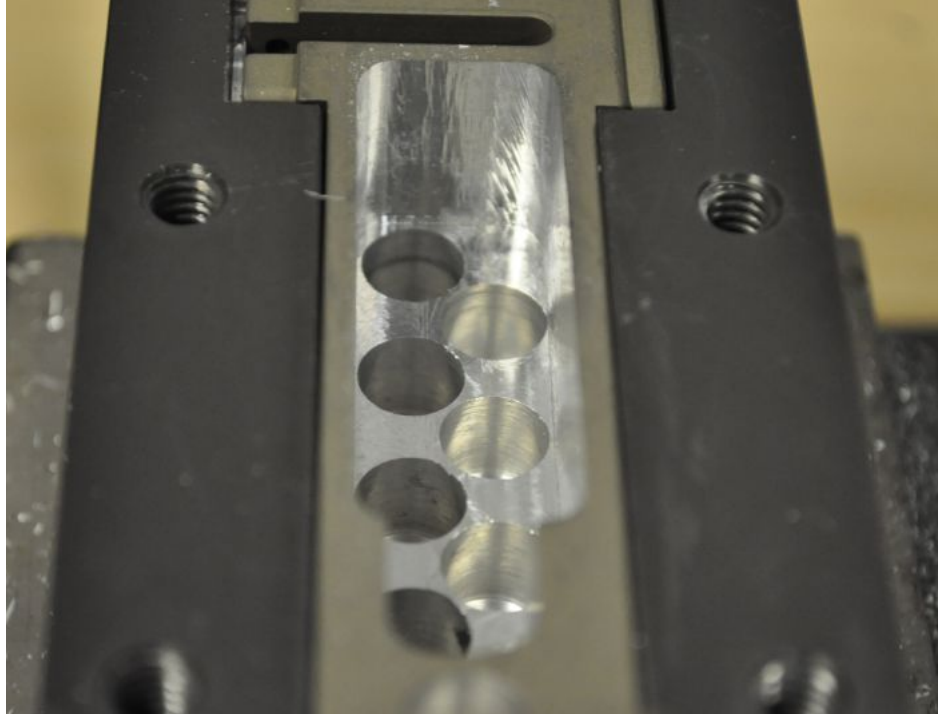

Figure 3.11: 1st Finishing pass at the depth of 3 hash marks
- c. From the center, make multiple light clockwise passes following the jig contour until the end-mill shank touches the template in a spiral fashion (figure 3.11) **(Again, only the smooth part of the end mill (the “shank”) should ever touch the jig).**